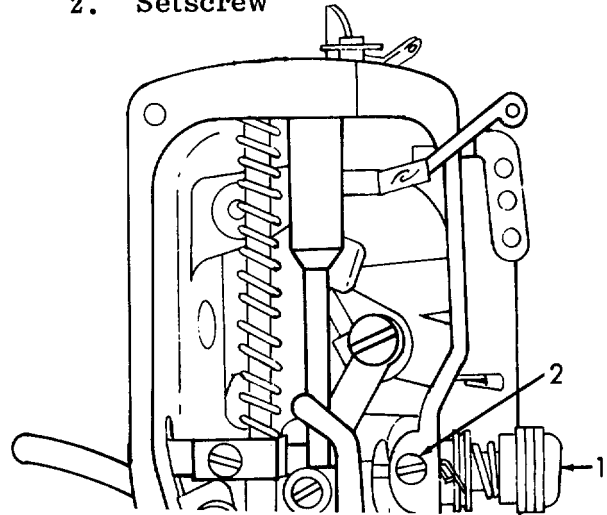

Figure 6-93. Needle Thread Tension Assembly, Installation.
- (2) Clean using cleaning solvent (Appendix E, item 2) and either a soft, clean cloth (Appendix E, item 3) or a medium bristle brush (Appendix E, item 1).
- (3) Allow to dry.
*c. Inspection. Inspect assembly for damage.**d. Repair. Repair of the needle thread tension assembly is limited to the replacement of a defective assembly.**e. Installation (Refer to Figures 6-93 and 6-94).*
- (1) Refer to Figure 6-93. Install thread tension assembly (1) into upper arm as an assembly.